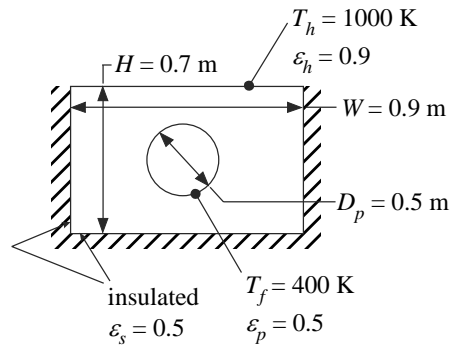

**Figure P10.5-13: Heater plate heating a pipe.**
10.5-13 Figure P10.5-13 illustrates a heater plate used to heat a pipe that has a shield.